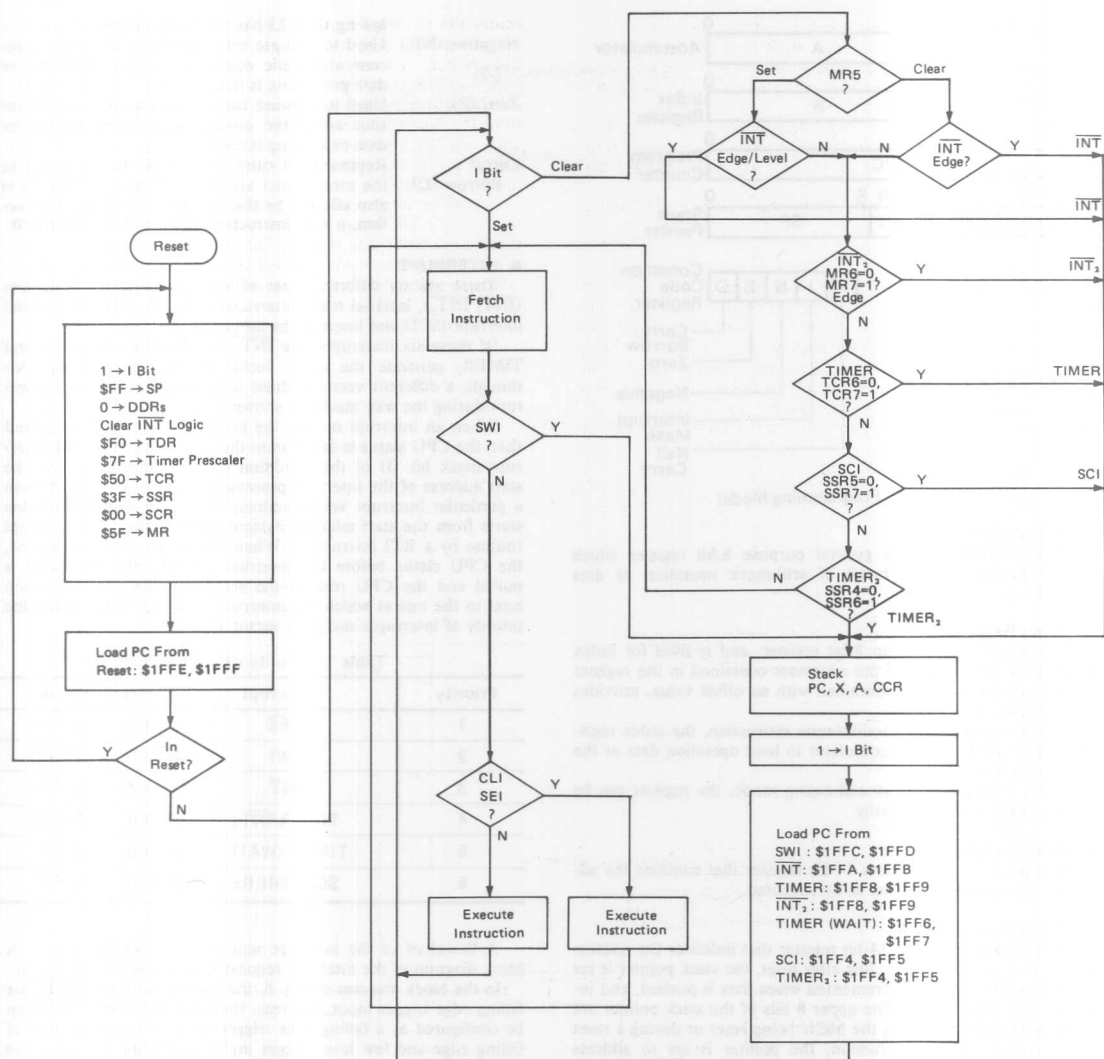
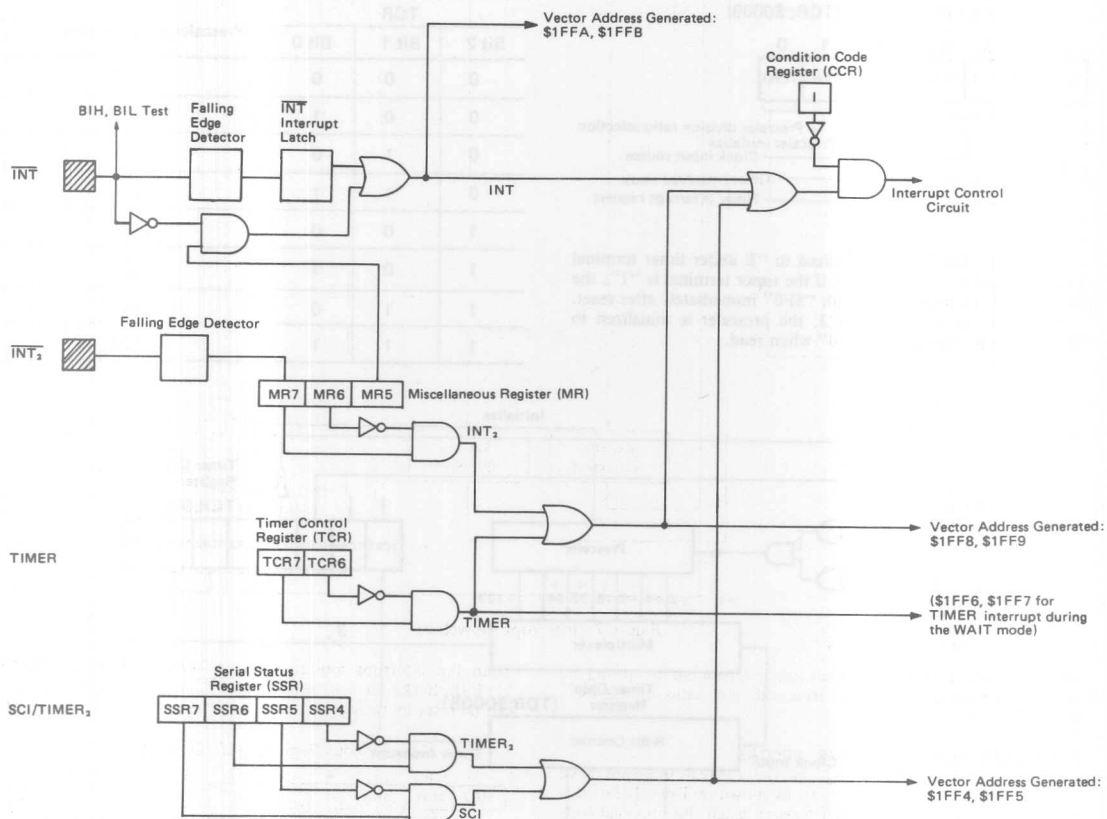

Figure 7 Interrupt Flowchart
Figure 8 Interrupt Request Generation Circuitry
A flowchart of the interrupt sequence is shown in Fig. 7. A block diagram of the interrupt request source is shown in Fig. 8.
In the block diagram of Fig. 8, the external interrupt INT_2 is a falling edge trigger input, whereas, the external interrupt $\overline{\text{INT}}$ can be configured as a falling edge trigger input or a combination of falling edge and low level trigger input, depending on the status of bit 5 in the miscellaneous register (MR). When an interrupt request is detected at the INT_2 or $\overline{\text{INT}}$ inputs, an interrupt request is generated and latched. The $\overline{\text{INT}}$ interrupt request is automatically cleared if jumping is made to the $\overline{\text{INT}}$ processing routine. Meanwhile, the INT_2 request is cleared if "0" is written in bit 7 of the miscellaneous register.